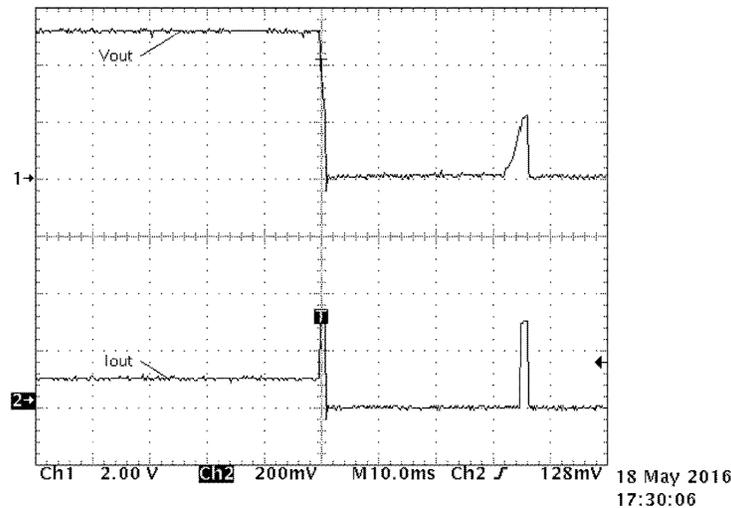
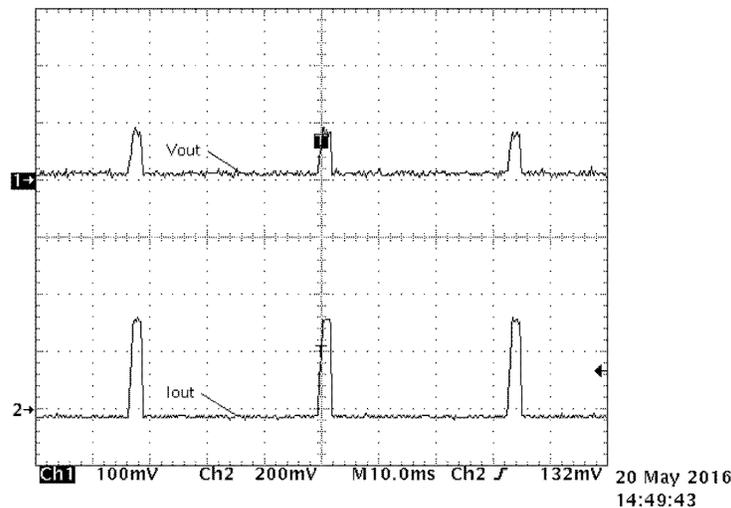

Figure 18. Overcurrent Protection
Figure 19. Short-Circuit Protection
The upper curve (1) is the output voltage with oscilloscope in DC-coupling mode with 2 V/div (Figure 18) and 100 mV/div (Figure 19). The lower curve (2) is the output current with the current probe 100 mV/A with 200 mV/div.
As shown in Figure 18 and Figure 19, when the current is rising to the current limit level, the device enters overcurrent protection as described in the TPS54202 datasheet (SLVSD26). After waiting the pre-programmed time, the device tries to restart. Once the fault condition is removed, the device starts normally.